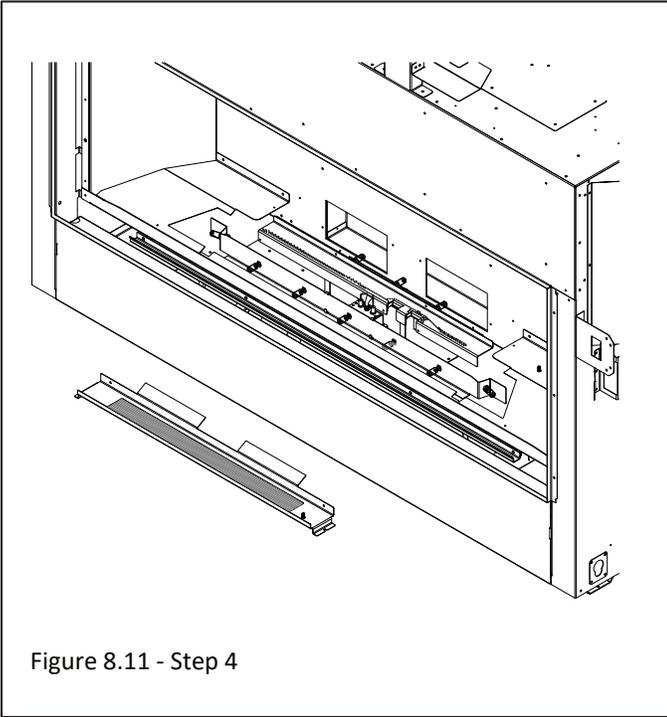

Figure 8.11 - Step 4
4. Remove the bottom burner assembly via (2) screws. Figure 8.11.